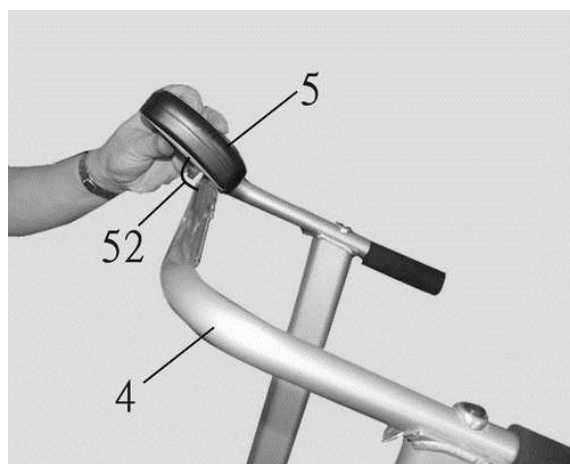

Figure 5
Connect the Sensor wire II (52) to the wire that comes from the Computer (5). Insert the Computer (5) to the computer plate of Front handlebar (4). (See figure 5)